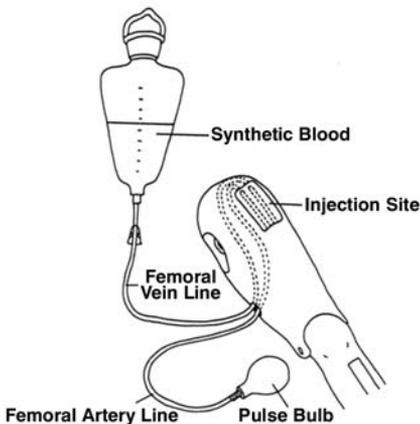

Figure 7
3. Attach the fitting end of tubing to the access site tubing. (**See figure 7.**)